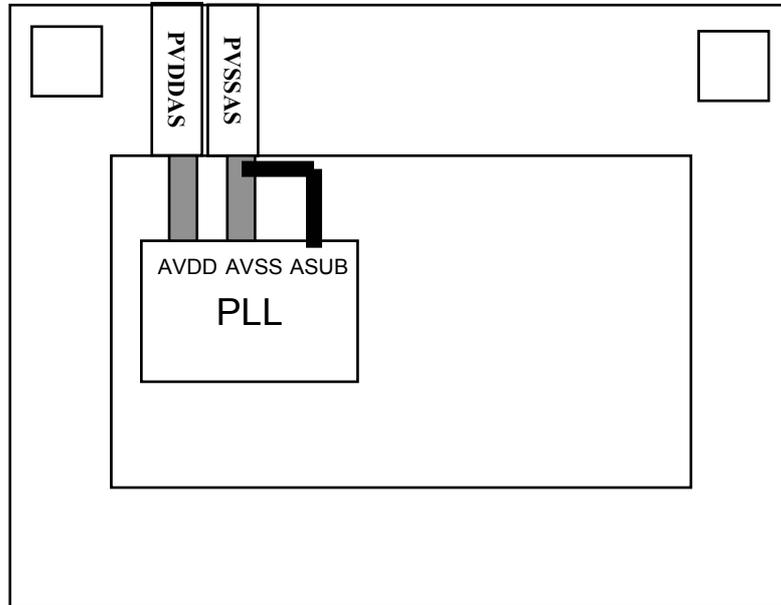

Figure 4. Routing consideration for the analog ground pads
- 2) ASUB ground must be connected from the analog ground pad and merged in front of the pad as can be seen in the Figure 4.